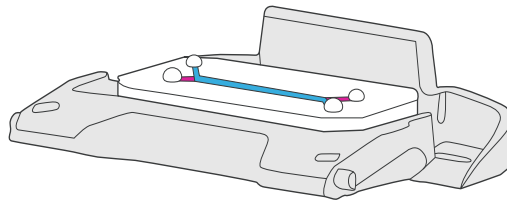

Figure 10: Chip in chip carrier with small individual droplets of ECM solution at ports
5. Using the respective ECM solutions for each channel, leave small droplets of excess ECM solution on both ports to prevent evaporation (Figure 10).